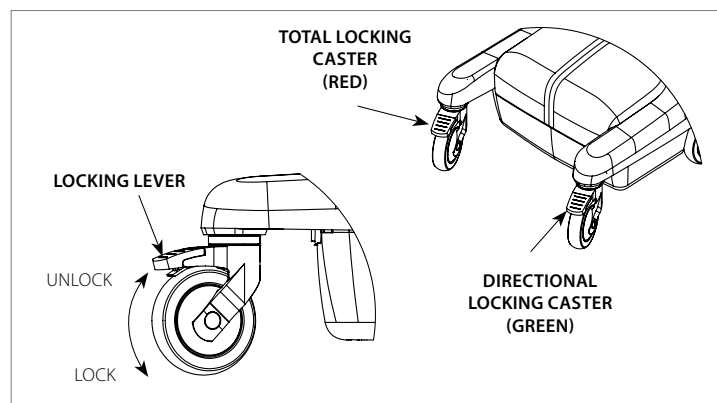

Figure 19
1. Lower the Hummingbird Cart to the lowest position and Disconnect from power outlet. Lock the **CASTERS** by stepping on the **LOCKING LEVER** (on each caster) such that they click in the down position (**Figure 19**).